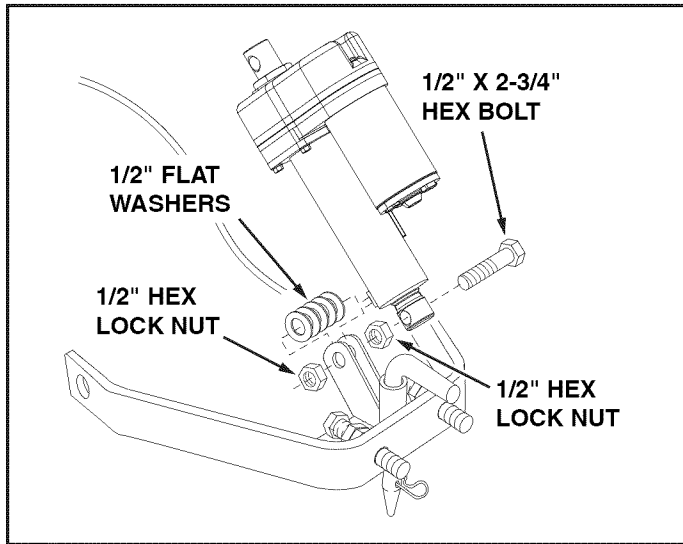

FIGURE 3
- Insert the 1/2" x 2-3/4" hex bolt into the lower shaft of the actuator and then screw a 1/2" hex lock nut as far as possible onto the bolt. See figure 3.
- Place up to five 1/2" flat washers between the anchor brackets on the lift assembly and insert the end of the 1/2" x 2-3/4" hex bolt through the anchor brackets and the washers. Screw a second 1/2" hex lock nut onto the bolt so that it is flush with the end of the bolt. Screw the first nut back against the anchor brackets and tighten both nuts securely. See figure 3.